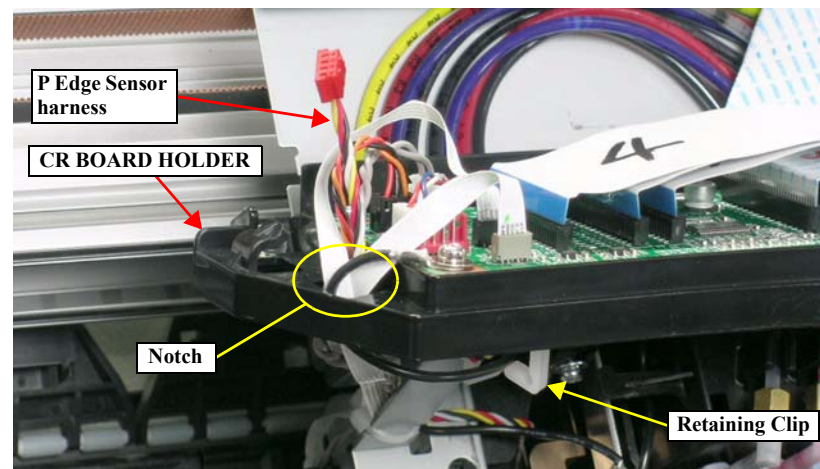

Figure 4-100. Releasing the P Edge Sensor Harness
2. Pull out the harness of the P Edge Sensor through the notch of the CR BOARD HOLDER, and release the harness from the retaining clip. *See Figure 4-100.*